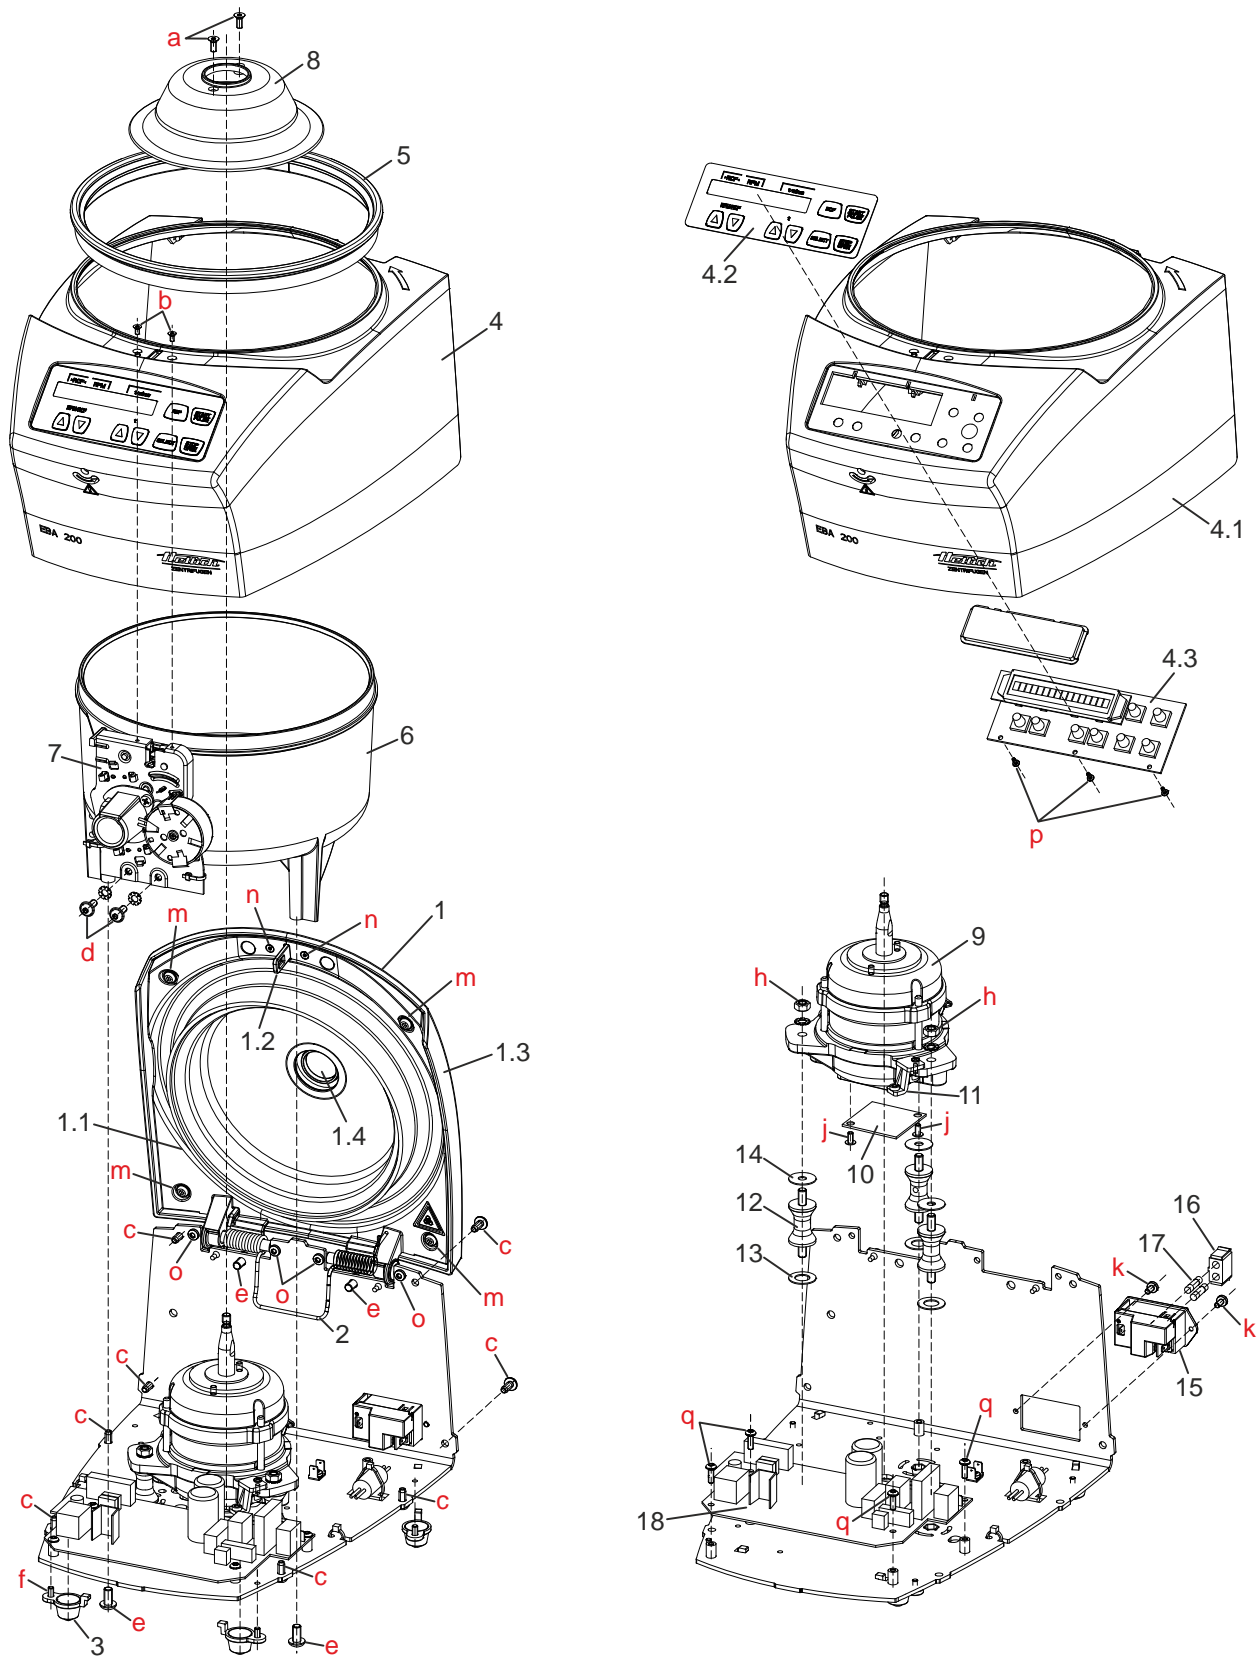
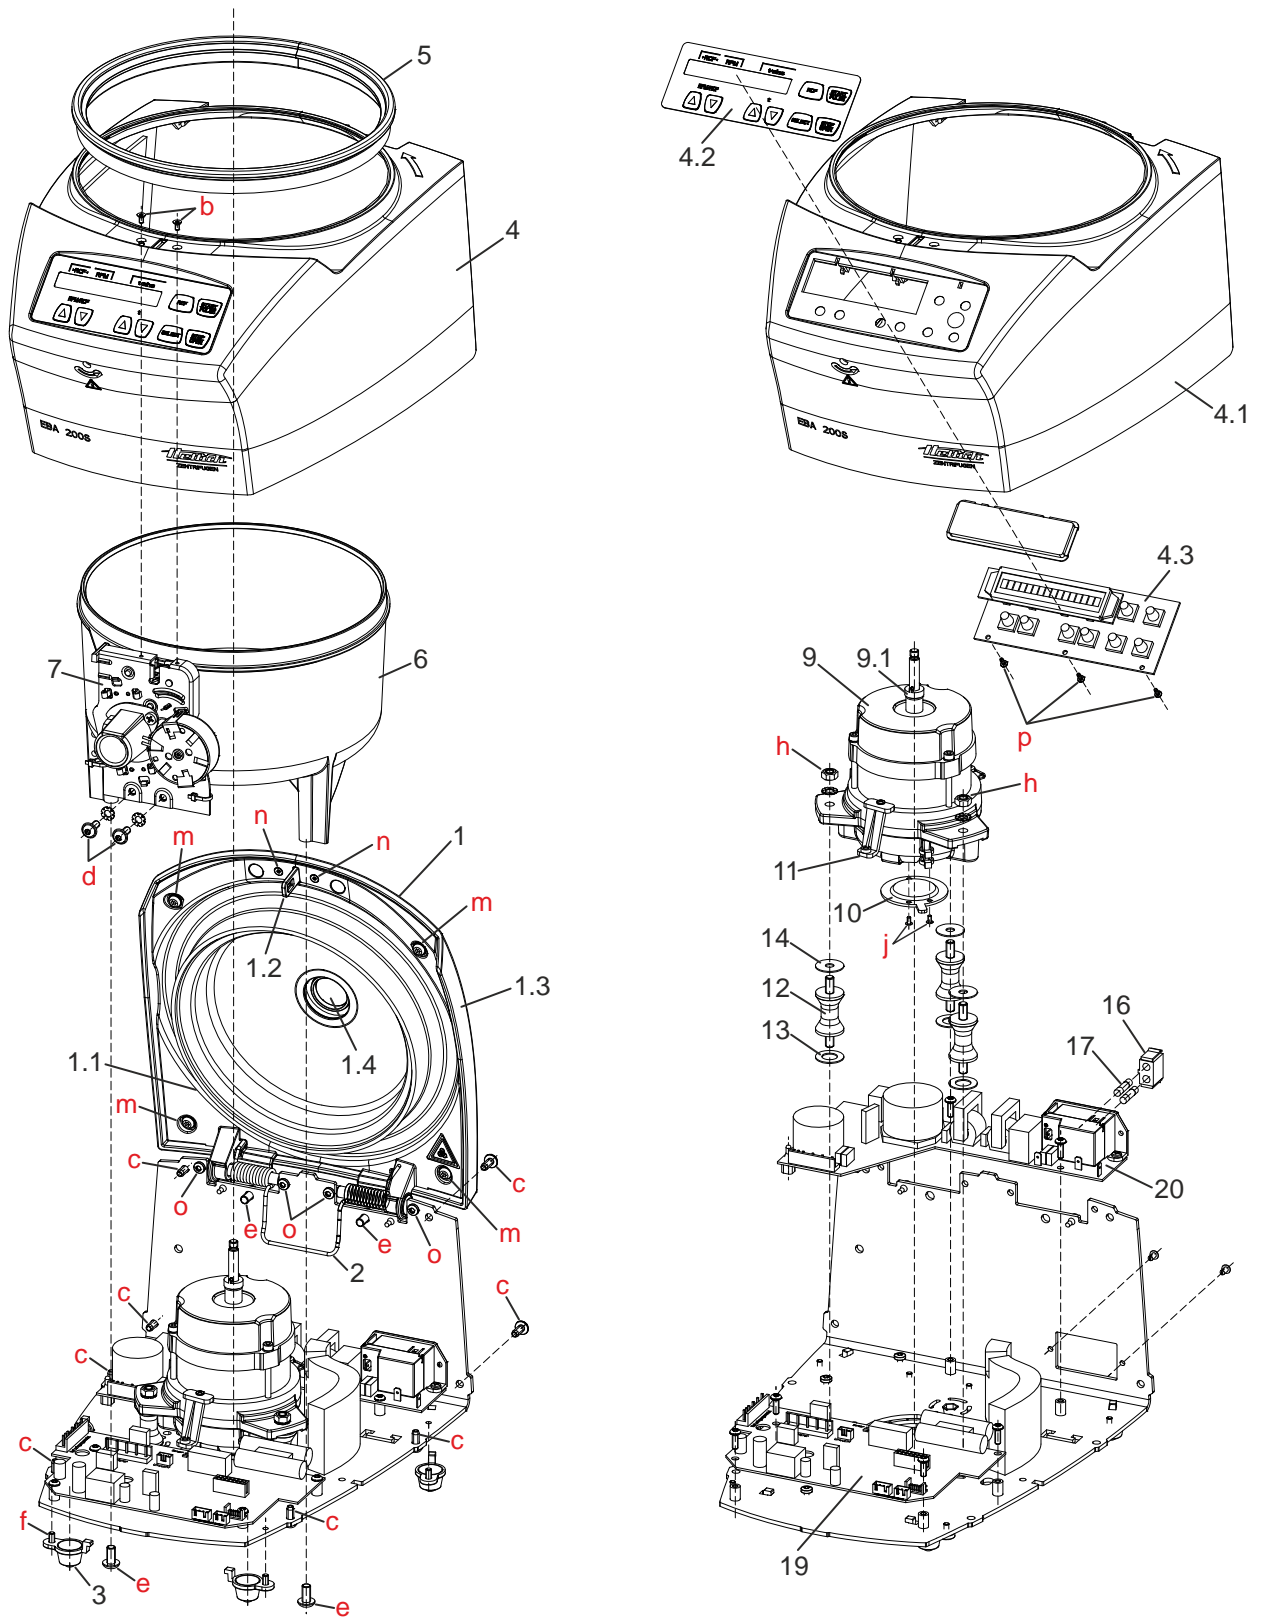
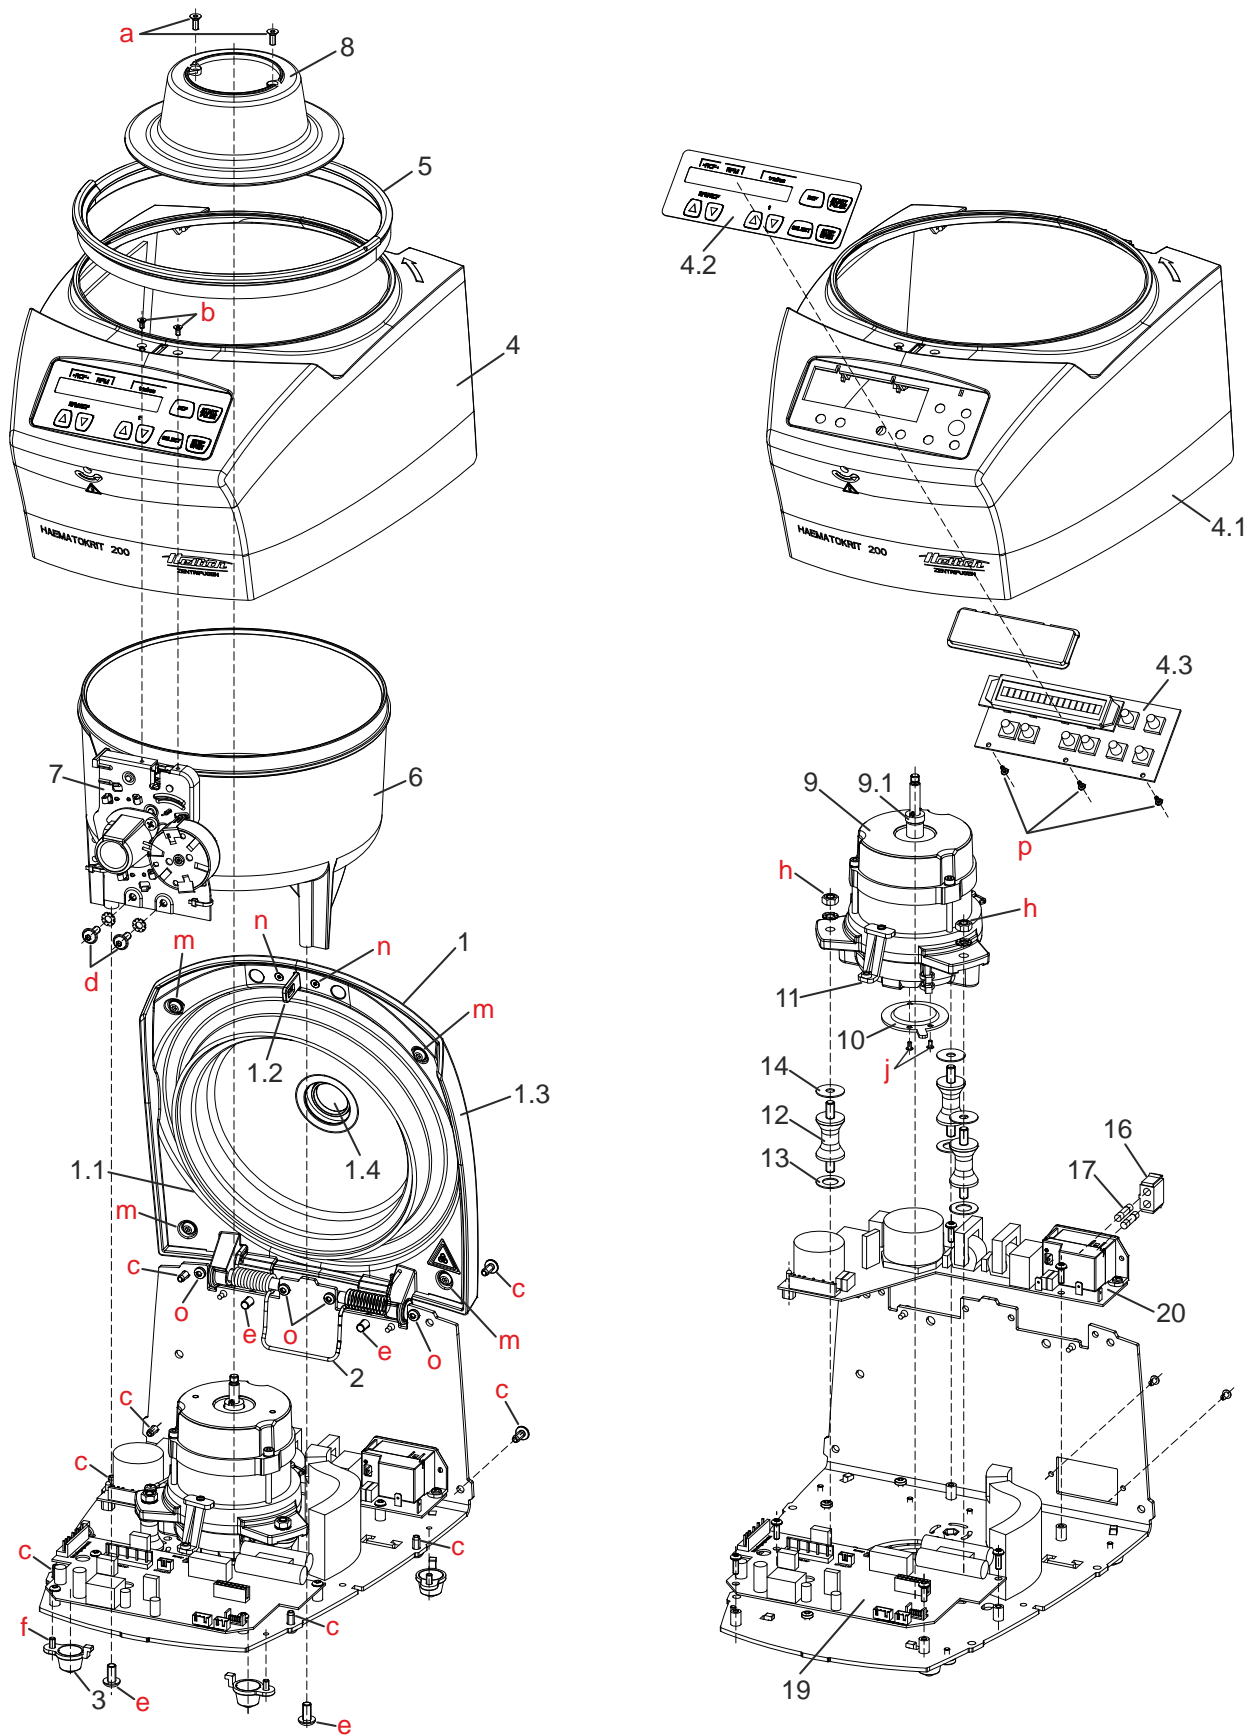

Fig. 1 EBA 200
Fig. 2 EBA 200 S
Fig. 3 HAEMATOKRIT 200
- Screw the two fastening screws of the lid lock (pg. 50, Fig. 1, b | pg. 51, Fig. 2, b | pg. 52, Fig. 3, b) out of the upper housing part.
- Screw the four fastening screws each of the upper housing part (pg. 50, Fig. 1, c | pg. 51, Fig. 2, c | pg. 52, Fig. 3, c) out of the base plate and out of the rear side of the device.
- Lift up the upper housing part (pg. 50, Fig. 1, item 4 | pg. 51, Fig. 2, item 4 | pg. 52, Fig. 3, item 4) somewhat and tilt forward.
- Screw the two screws (pg. 50, Fig. 1, a | pg. 51, Fig. 2, a | pg. 52, Fig. 3, a) out of the motor cover and remove the motor cover.
- Screw out the 2 fastening screws each of the centrifuging chamber (pg. 50, Fig. 1, e | pg. 51, Fig. 2, e | pg. 52, Fig. 3, e) out of the base plate and out of the rear side of the device.
- Lift up the centrifuging chamber (pg. 50, Fig. 1, item 6 | pg. 51, Fig. 2, item 6 | pg. 52, Fig. 3, item 6) and remove.
- Loosen the three fastening nuts of the motor (pg. 50, Fig. 1, h | pg. 51, Fig. 2, h | pg. 52, Fig. 3, h) and remove.
- Unplug the motor's grounding cable and remove the motor (pg. 50, Fig. 1, item 9 | pg. 51, Fig. 2, item 9 | pg. 52, Fig. 3, item 9) from the centrifuge.
- Screw the speed sensor (pg. 50, Fig. 1, item 10 | pg. 51, Fig. 2, item 10 | pg. 52, Fig. 3, item 10) off from the bottom of the motor (two screws for the EBA 200 and three screws for EBA 200 S, HAEMATOKRIT 200, see pg. 50, Fig. 1, j | pg. 51, Fig. 2, j | pg. 52, Fig. 3, j).
- Before installing the motor, check the three rubber/metal bearings (pg. 50, Fig. 1, item 12 | pg. 51, Fig. 2, item 12 | pg. 52, Fig. 3, item 12) for any wear or cracks and replace them, if necessary. If a rubber/metal bearing is damaged, all three rubber/metal bearings have to be replaced. To replace the rubber/metal bearings, screw them out of the base plate.
When installing the rubber/metal bearings, make sure that there is an anti-twist device (pg. 50, Fig. 1, item 13, 14 | pg. 51, Fig. 2, item 13, 14 | pg. 52, Fig. 3, item 13, 14) on both sides of the rubber/metal bearing in order to prevent it from twisting during installation.
- Screw the holder (pg. 50, Fig. 1, item 11 | pg. 51, Fig. 2, item 11 | pg. 52, Fig. 3, item 11) off of the motor.
- Screw the two fastening screws of the lid lock (pg. 50, Fig. 1, d | pg. 51, Fig. 2, d | pg. 52, Fig. 3, d) from the centrifuging chamber.
- Exchange the lid lock (pg. 50, Fig. 1, item 7 | pg. 51, Fig. 2, item 7 | pg. 52, Fig. 3, item 7).
- ☞ Before tightening the two fastening screws of the lid lock (pg. 50, Fig. 1, d | pg. 51, Fig. 2, d | pg. 52, Fig. 3, d) make sure that the locking tab on the lid (pg. 50, Fig. 1, item 1.2 | pg. 51, Fig. 2, item 1.2 | pg. 52, Fig. 3, item 1.2), moves centred into the lid lock when the lid is locked, and doesn't scrape on the housing of the lid lock.
- Unplug all plugs from the electronics (pg. 50, Fig. 1, item 18).
- Screw out the four fastening screws from the electronics (pg. 50, Fig. 1, q).
- Unplug all plugs from the electronics (pg. 51, Fig. 2, item 19 | pg. 52, Fig. 3, item 19).
- Screw the three fastening screws out of the control panel (pg. 50, Fig. 1, p | pg. 51, Fig. 2, p | pg. 52, Fig. 3, p).
- Lift up the control panel (pg. 50, Fig. 1, item 4.3 | pg. 51, Fig. 2, item 4.3 | pg. 52, Fig. 3, item 4.3) on the side of the fastening screws and pull out of the holder.
- Unplug all plugs from the electronics (pg. 51, Fig. 2, item 20 | pg. 52, Fig. 3, item 20).